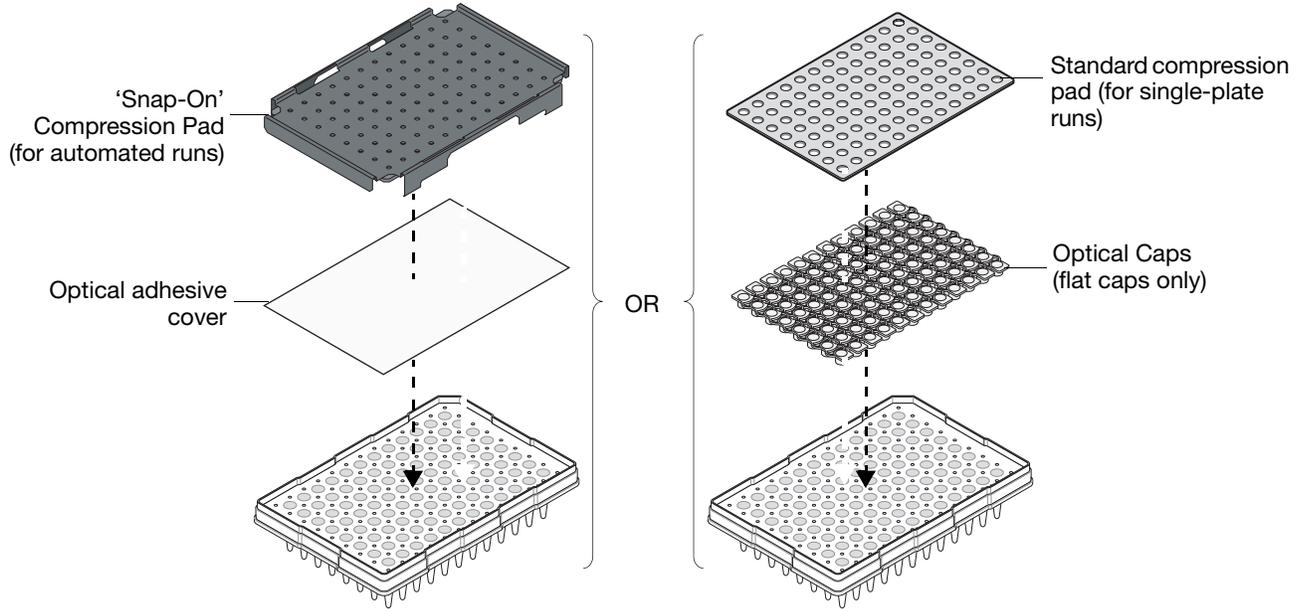

Figure 4-3 96-Well Optical Reaction Plate Assembly
2. Seal the optical plate with a seal that is compatible with the 7900HT instrument (Figures 4-3 and 4-4 on page 4-9).
- Individually using the SDS software, then apply a standard compression pad (Figure 4-3)
- As part of a batch using the Automation Controller Software, then apply an ABI PRISM Snap-On Compression Pad (Figure 4-3)